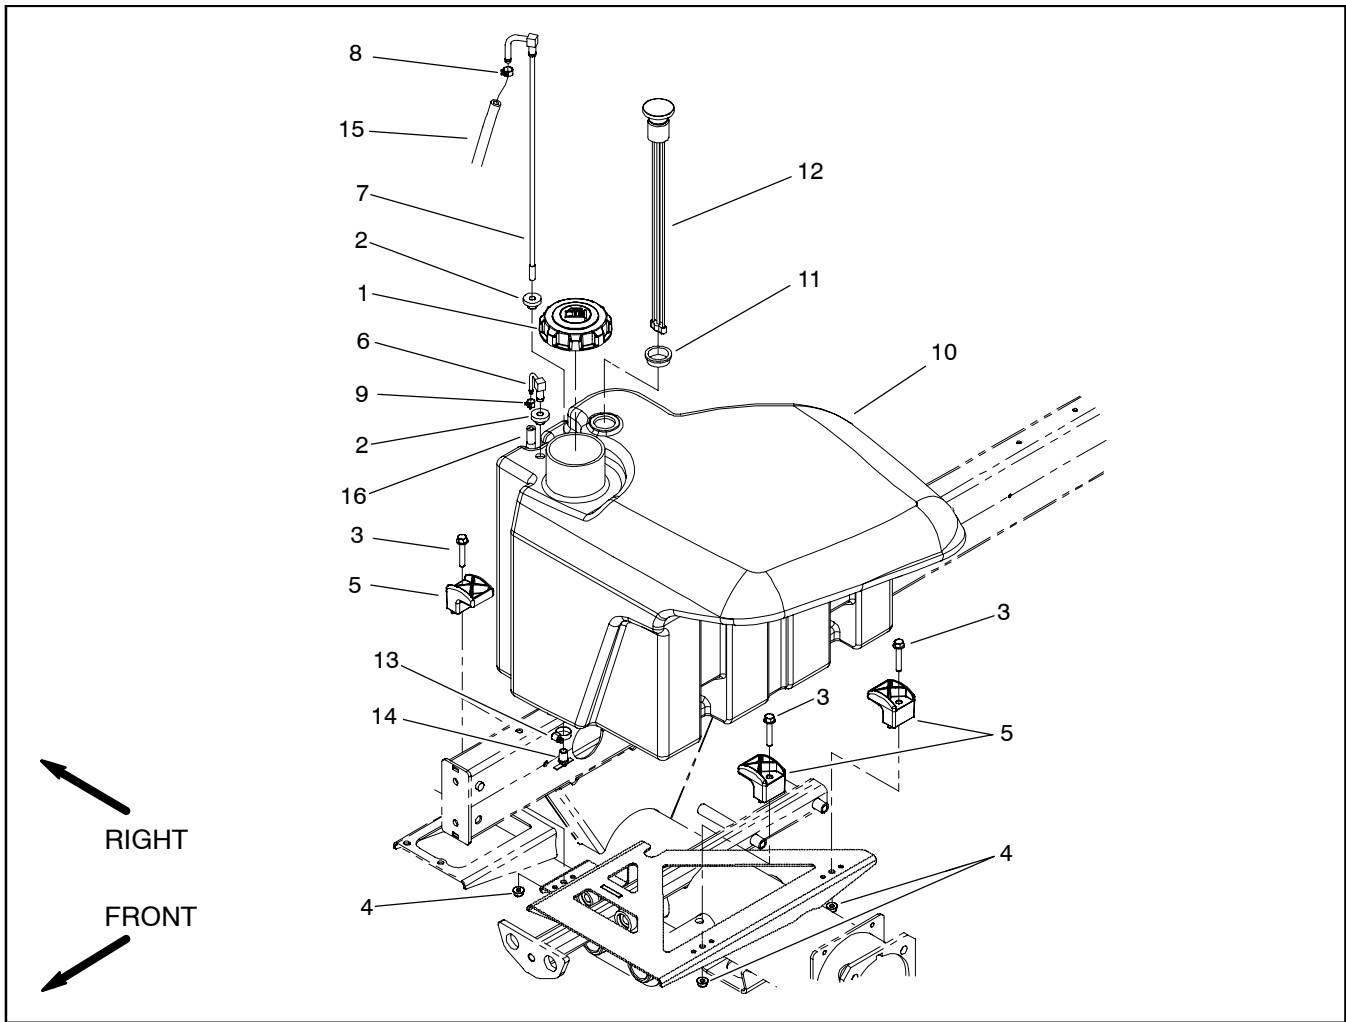

Figure 2
Fuel Tank Removal (Fig. 2)
4. Loosen hose clamps and disconnect fuel hoses from suction (item 7) and return (item 6) fittings on the top of the fuel tank.
5. Remove fuel tank using Figure 2 as a guide.
Fuel Tank Installation (Fig. 2)
1. Install fuel tank to frame using Figure 2 as a guide.
2. Correctly connect fuel hoses to suction (item 7) and return (item 6) fittings on the top of the fuel tank. Secure fuel hoses with hose clamps.